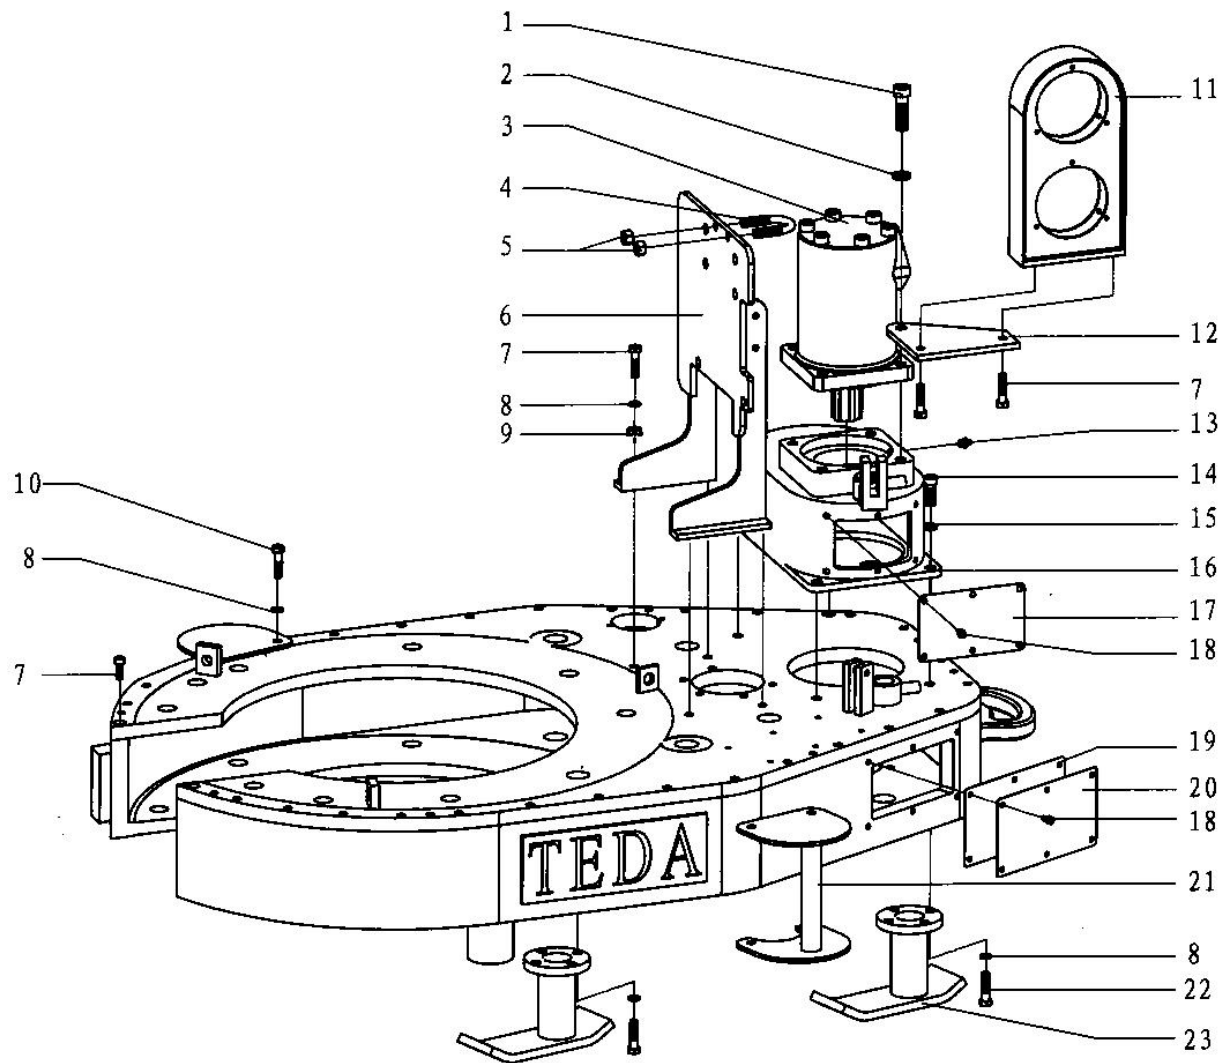

Fig. 7-5
5. Shell and accessories II (Fig 7-5, Table 5)